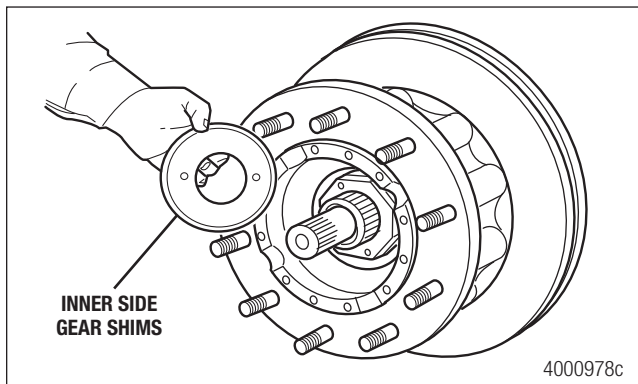

Figure 13.17
3. Install the inner side gear. The holes on the side gear back face must engage with the adjusting nut pins. Figure 13.17. To align the adjusting nut pins with the side gear holes, use the following procedure: